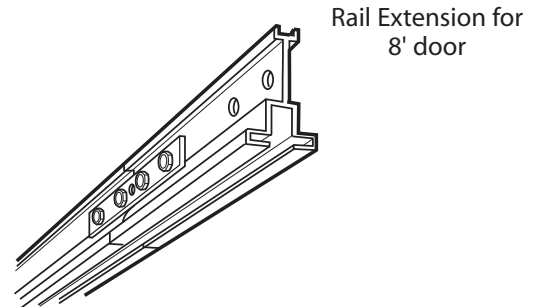

Figure 3 Rail Extension Kit
- An Extension Kit is available for 8' doors (**Figure 3**).